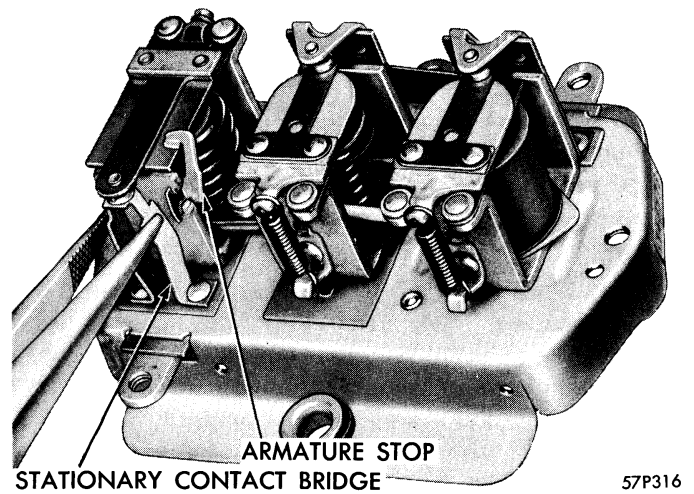

Figure 19—Adjusting Circuit Breaker Air Gap
5. **ADJUSTING CIRCUIT BREAKER AIR GAP**—Bend the armature stop so that the space between the core and armature is within the limits specified. The stop must not interfere with the movement of the armature. Adjust the contact point gap to .015 inch by expanding or contracting the stationary contact bridge. See Figure 19. When adjusting the contact gap, keep the contact points in alignment.